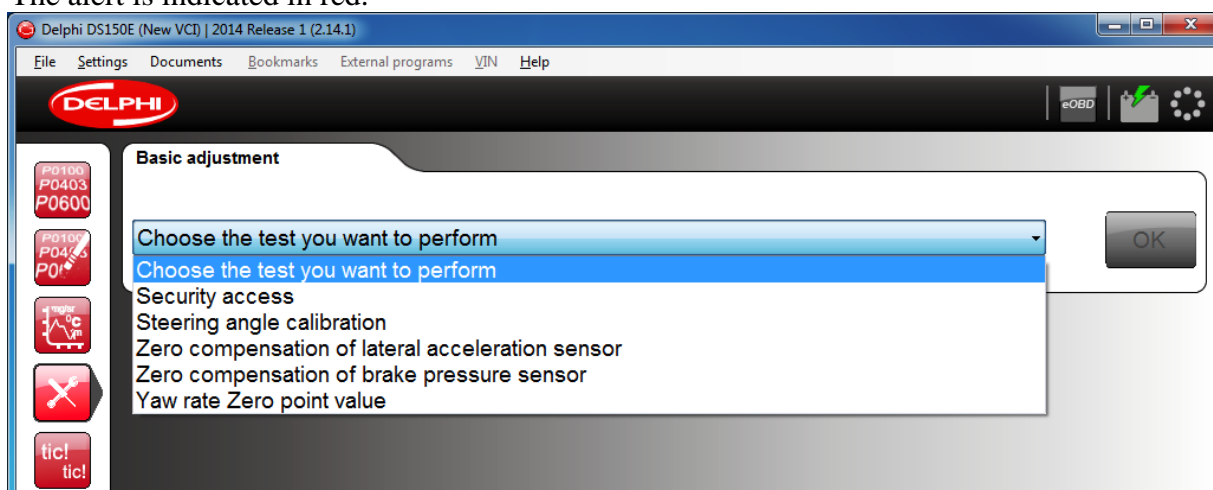

Fig. 6 - Declaration of ESP trough the software
- Declaration of ESP trough the software (Fig. 6);